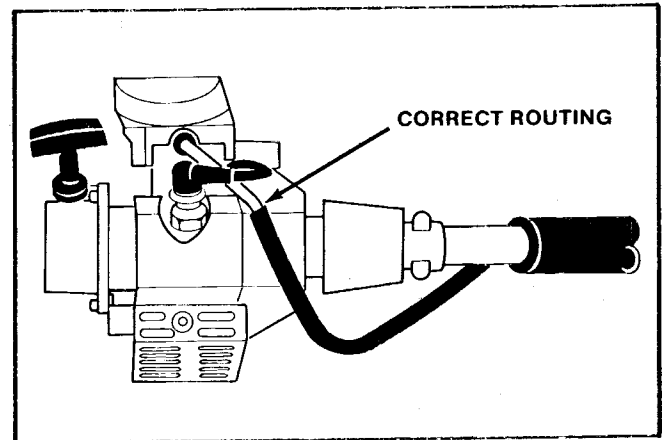

Figure 32
3. Ensure that the throttle cable is positioned as shown in Figure 32 to prevent throttle cable damage.